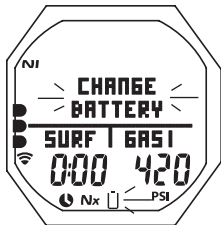

Fig. 4 - LOW BATT ALARM
- Upon entry into Surface Mode, the Battery icon (shell only with no inner bar) and graphic CHANGE BATTERY flash for 5 seconds (Fig. 4) and operation reverts to Watch Time (Fig. 5), with Compass (view only) allowed, until the Battery is changed or voltage cannot sustain operation ( $< 2.35$  volts), then the graphic CHANGE BATTERY flashes until the Battery is changed or voltage drops to the level at which operation cannot be maintained.